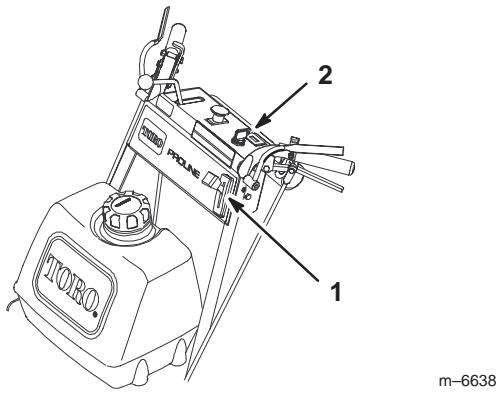

Figure 10
1. Move the throttle lever to the Slow position (Fig. 10).
4. Turn the ignition key to Off (Fig. 10).